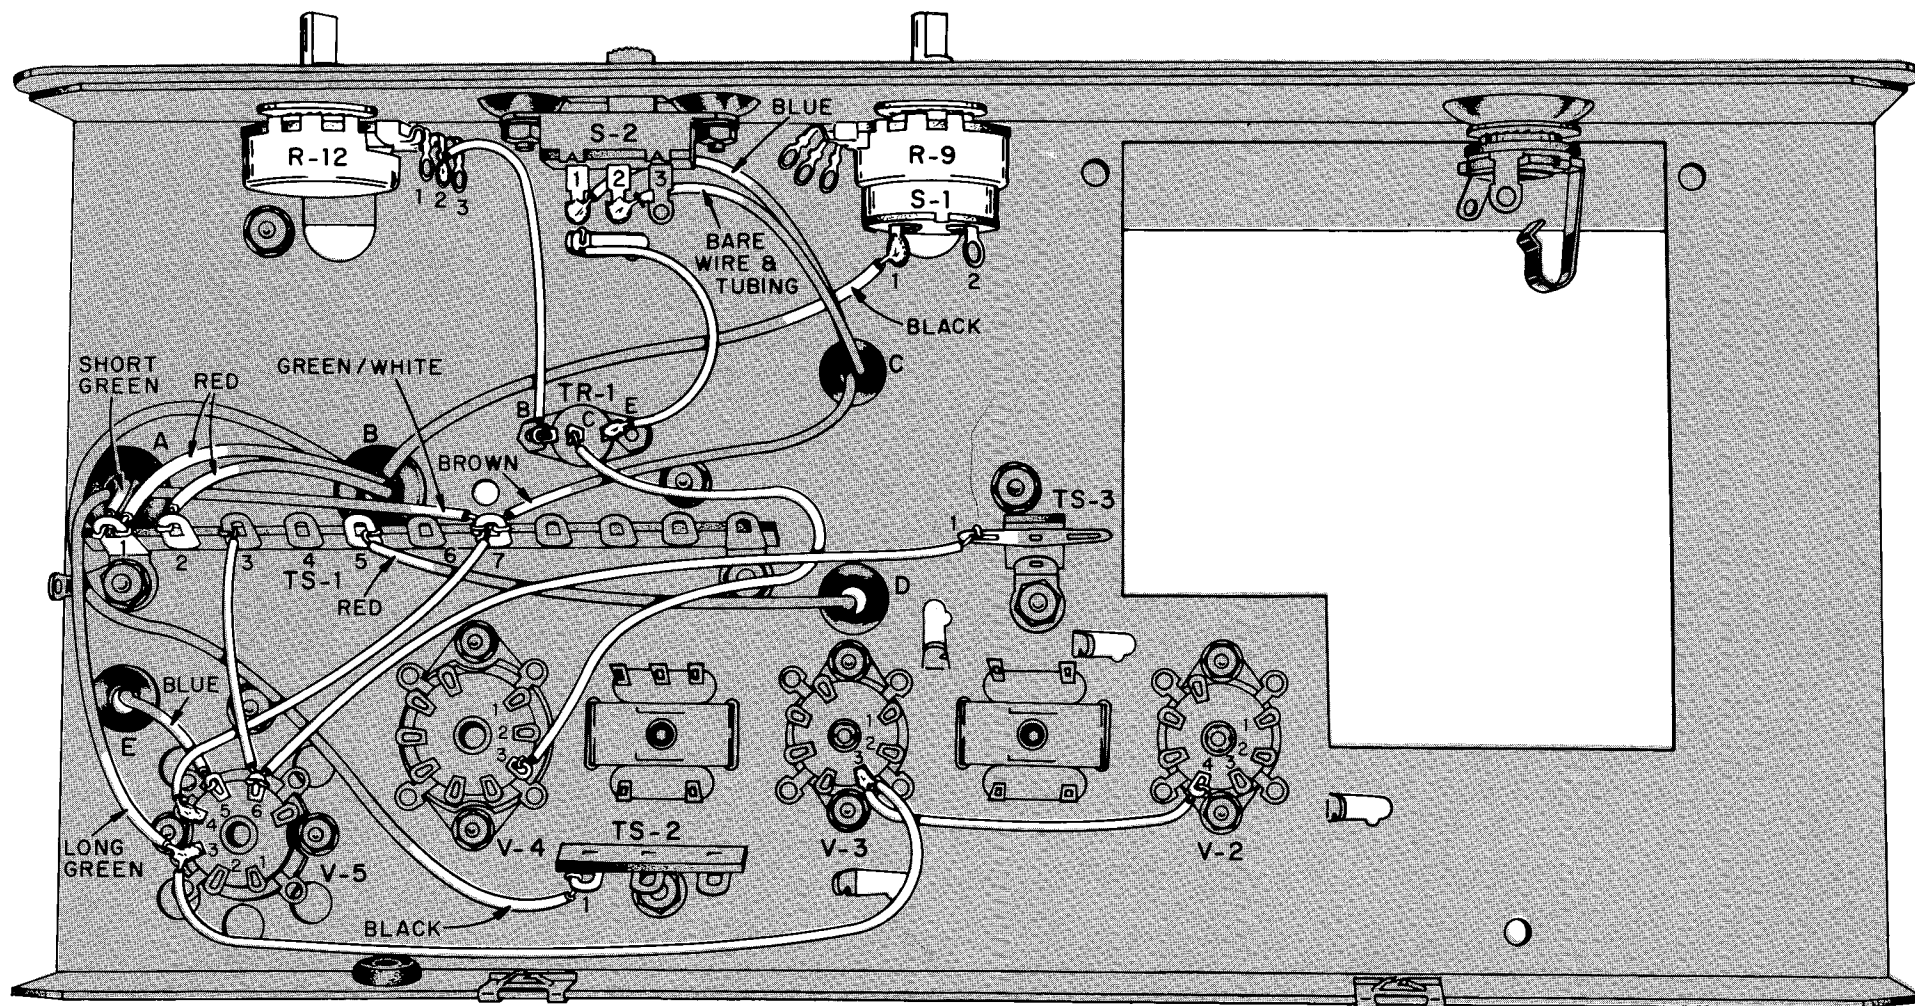

FIGURE 5. FIRST WIRING ON THE BOTTOM OF THE CHASSIS
SEE FIGURE 5.
- ☐ Turn the chassis over and position it as shown in Figure 5.